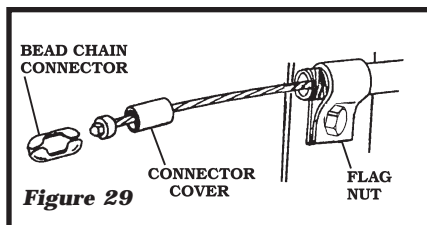

Figure 29
3. The **FLAG NUT** may be used to anchor the **CRUISE CABLE** to the existing throttle cable bracket. **Figure 29** In some cases there is an existing hole, in other cases you can drill a **5mm (.20")** hole in the bracket.